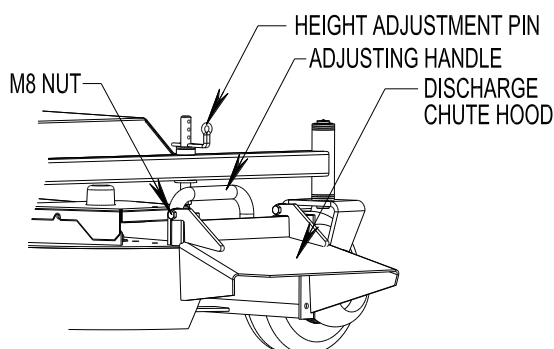

FIG 7
- Discharge Chute: Loosen two M8 nuts attaching discharge chute. Lower the discharge chute into position. Retighten nuts until chute is snug but can pivot freely. (See FIG 7)